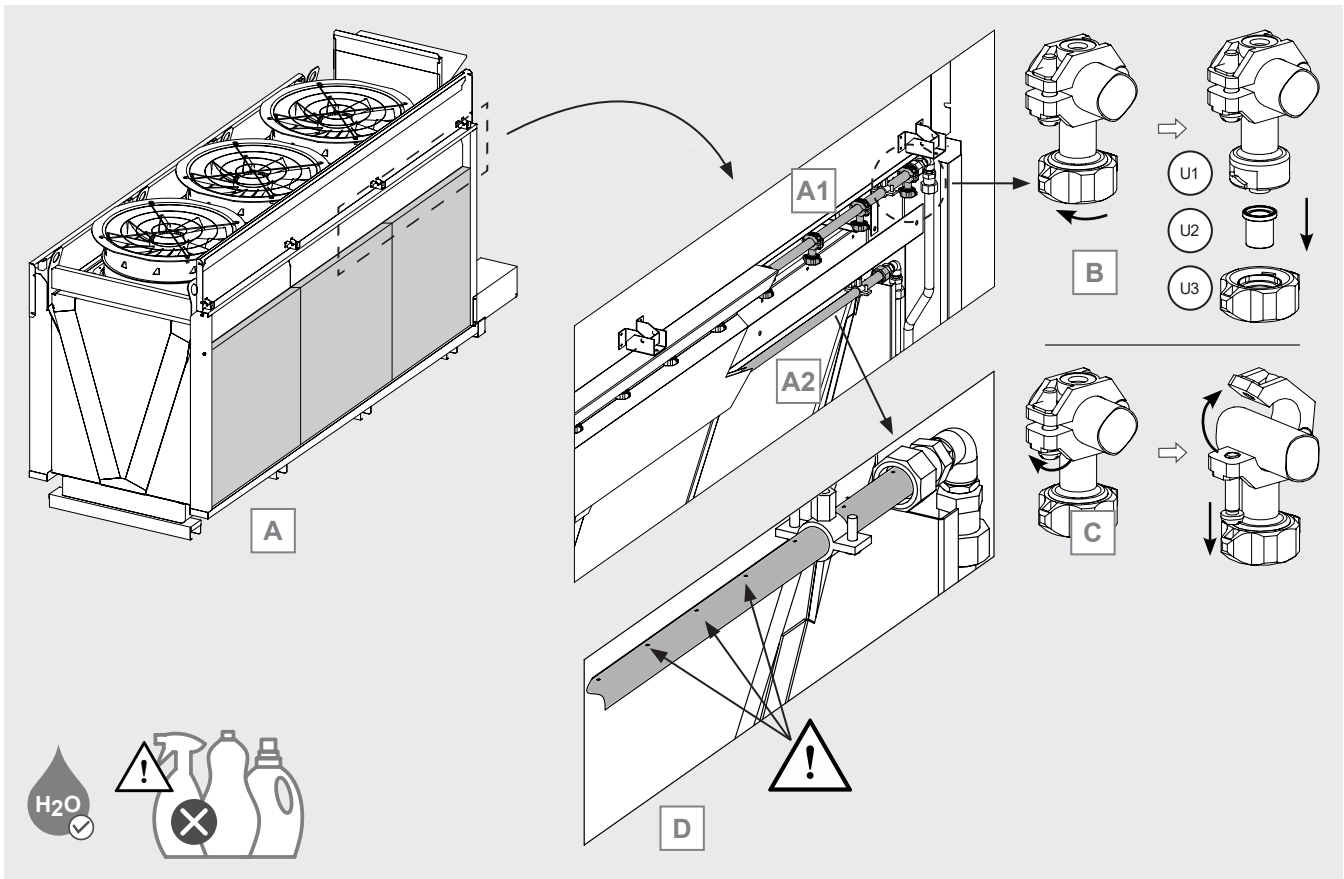

Figure 24
- 12.12.5 Locate the water distribution lines of the adiabatic system. Observe Figure 24 A: line (A1), by means of a row of nozzles, distributes water to the outer panel. Line (A2), by means of a perforated pipe, distributes water to the inner panel.
- 12.12.6 Observe Figure 24 B. Each nozzle in line (A1) consists of three parts: no. 1 nozzle body (U1), no. 1 nozzle (U2) which determines the type of jet and water flow rate, no. 1 nut (U3) which holds the nozzle in place.
- 12.12.7 See Figure 24 B. In the case of clogged nozzles, it is possible to replace the nozzle without changing the whole nozzle: unscrew the nut and remove the nozzle. There are 3 types of nozzles corresponding to 3 different performances: each is marked by a colour, lilac, black and orange. Replace the nozzles with new ones of the same brand and colour. If in doubt, contact Modine.
- 12.12.8 Observe Figure 24 C. In the case of damaged nozzles, unscrew the screw and open the quick coupling. Remove the nozzle. If the nozzle is damaged, replace it completely, including the nozzle.
12.12.10 Observe Figure 24 D. Check that all holes in the distribution pipe (A2) are perfectly clear. Remove any lime residue with a damp cloth. Do not use detergents or aggressive substances.